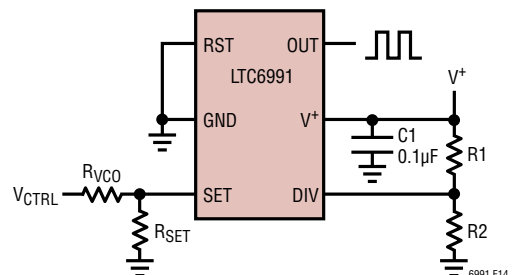

Figure 14. Voltage-Controlled Oscillator
With one additional resistor, the LTC6991 output frequency can be manipulated by an external voltage. As shown in Figure 14, voltage V_{CTRL} sources/sinks a current through R_{VCO} to vary the I_{SET} current, which in turn modulates the output frequency as described in Equation (3).